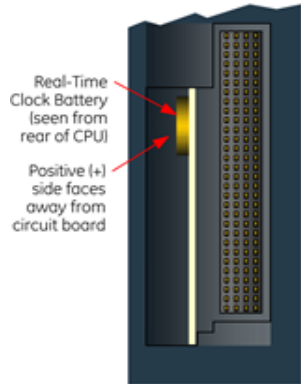

Figure 2: RTC Battery Location
1. Remove the pull-tab from the Real Time Clock (RTC) battery, located on the back of the CPE302 (Figure 2).